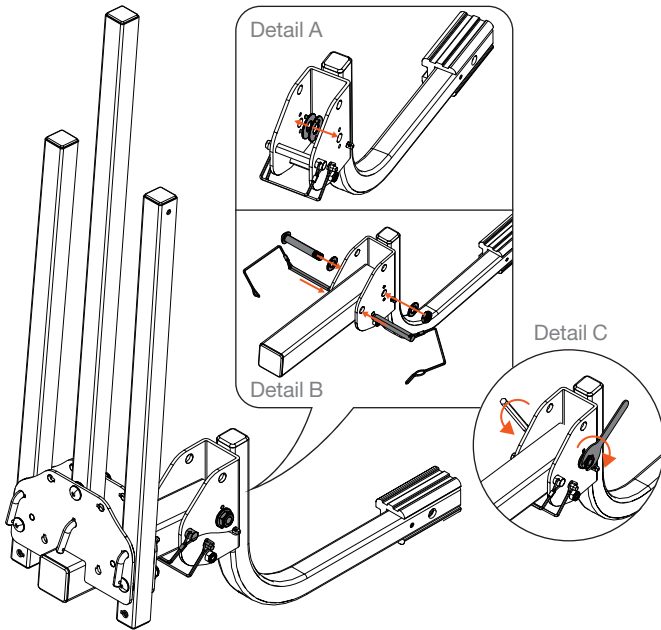

Figure 1
Remove security pins from shank (#2). Insert spacers (#8) into the inside of hitch mounting shank (#2) as shown in figure 1, detail A. After spacers are inserted, place the main body rack arms (#1) into shank (#2) and secure with the two security pins (previously removed) and shank bolt (11) as shown in detail B. Tighten bolt using wrenches provided. See detail C.